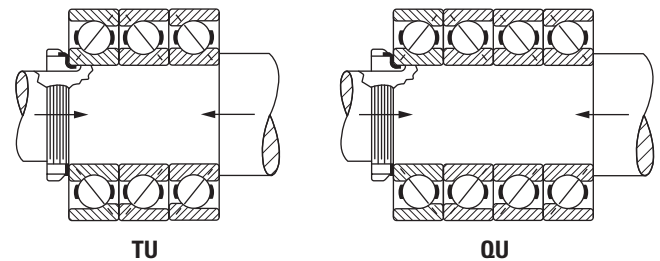

Fig. 101. Typical triplex and quadruplex bearing mountings.
Flush-ground (DU) pairs may be mounted in combination with a single flush-ground bearing as a triplex (TU) set shown below (fig. 101). Also shown below is a quadruplex (QU) set where three bearings in tandem are mounted back-to-back with a single bearing. These arrangements provide high capacity in one direction and also a positively rigid mounting capable of carrying a moderate amount of reverse thrust.